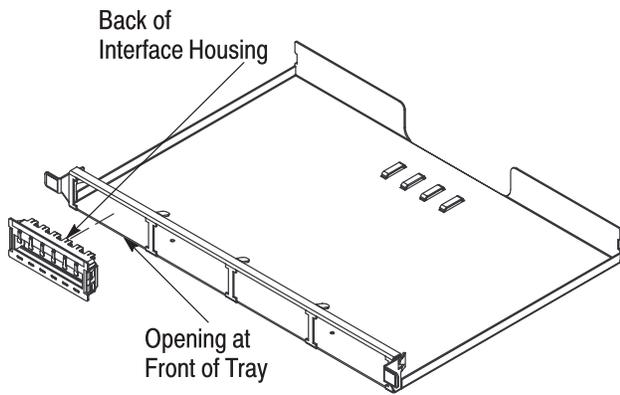

Figure 4
2. If applicable, install an interface housing by aligning the back of the interface housing with an opening in the front of the tray; then slide the interface housing into the opening until the snap-in latches “click” into place. See Figure 4.